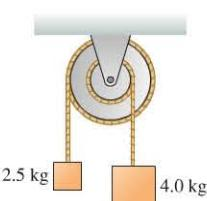

FIGURE P7.59
59. **III** The ropes in Figure P7.59 are each wrapped around a cylinder, and the two cylinders are fastened together. The smaller cylinder has a diameter of 10 cm and a mass of 5.0 kg; the larger cylinder has a diameter of 20 cm and a mass of 20 kg. What is the angular acceleration of the cylinders? Assume that the cylinders turn on a frictionless axle.